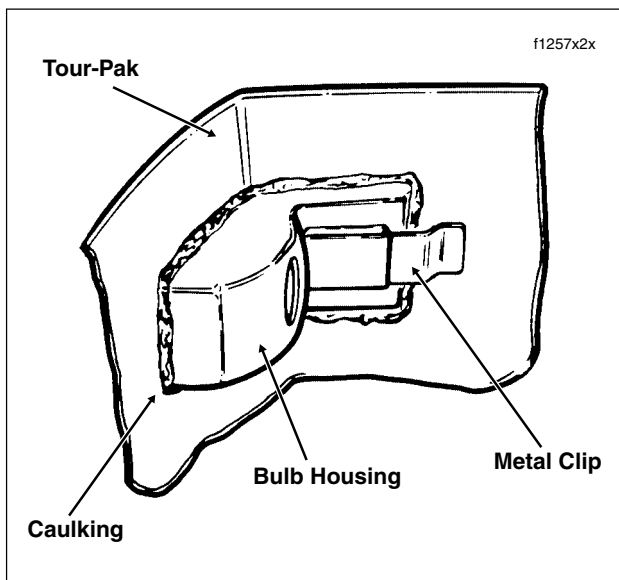

Figure 2-146. Wrap-Around Light Assembly
10. Remove caulking from around light bar. Remove four flange nuts and metal clips to free light bar from Tour-Pak. See Figure 2-146.
1. Install light bar, metal clips and flange nuts to secure light bar to Tour-Pak. Inside Tour-Pak, use RTV silicone sealer (Part No. 99710-88) to seal perimeter of light bar. See Figure 2-146.